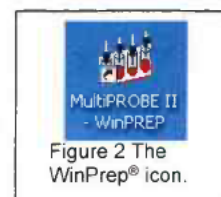

Figure 1. The Test Outline of the program DNA IQ Extraction_Ver1.1.
3. Double click the WinPrep® icon on the computer desktop (Figure 1).